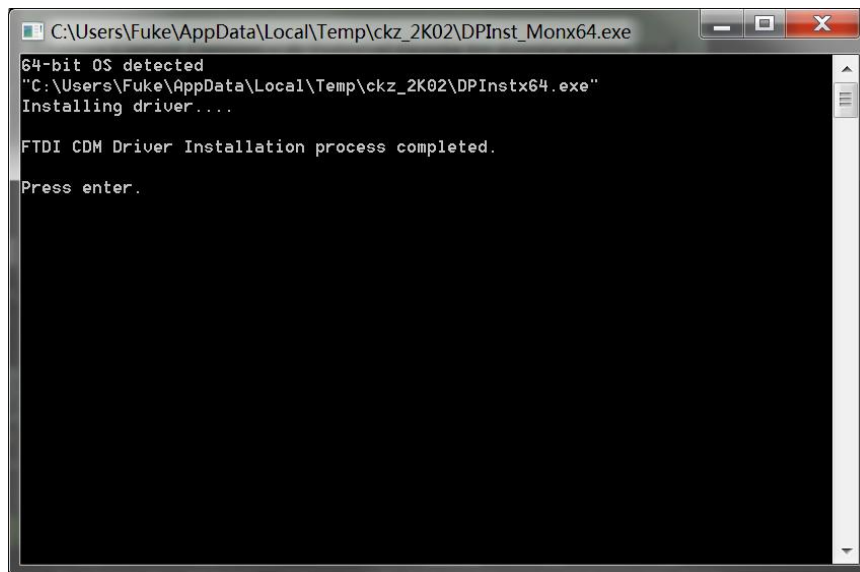

Fig.30 FT232 Driver is installed successfully
- (2) After the installation is finished, you will see the Fig 30. Then press "Enter" key to finish it.